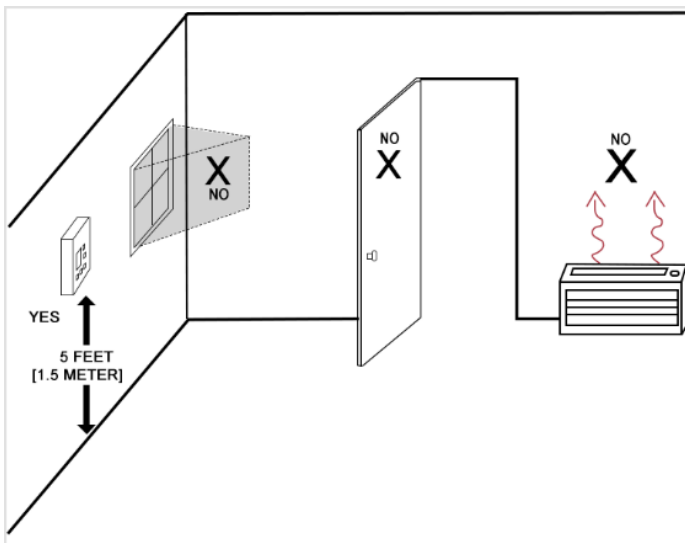

Figure 5. Recommended mounting location
2. Attach the plate to the junction box using the supplied screws as shown in Figure 5.